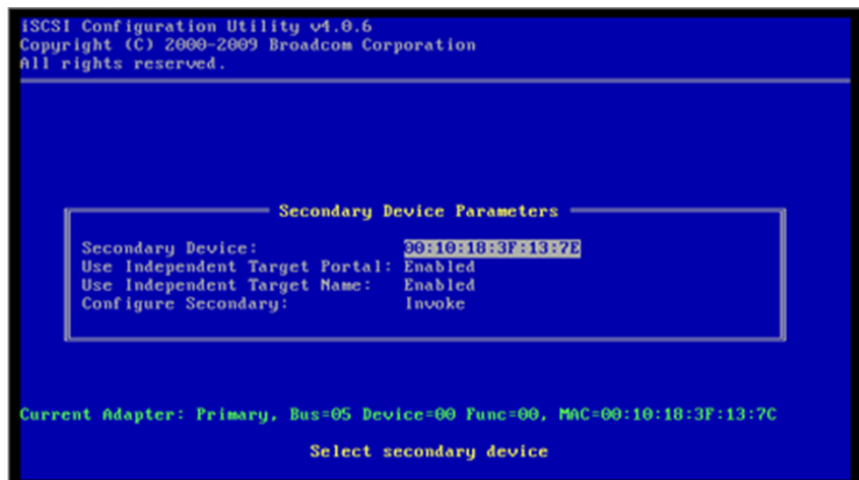

Figure 34 Setting up the Secondary Device Parameters
8. Set up the **Secondary Device Parameters**, as shown in the example in Figure 34.
13. Set up the **Secondary Device Parameters**, as shown in the example in Figure 34.